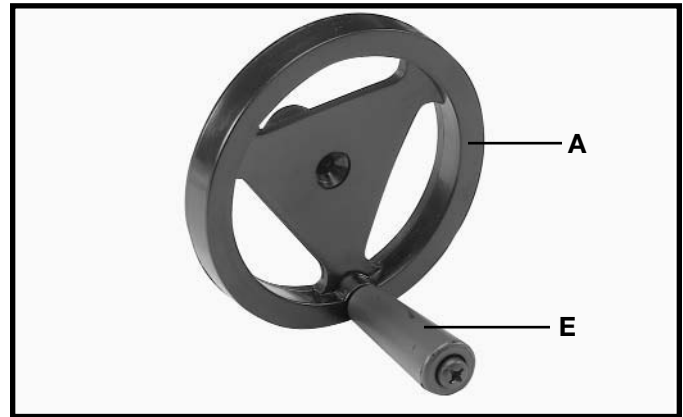

Fig. 6
2. Fig. 6, illustrates the handle (E) assembled to handwheel (A).